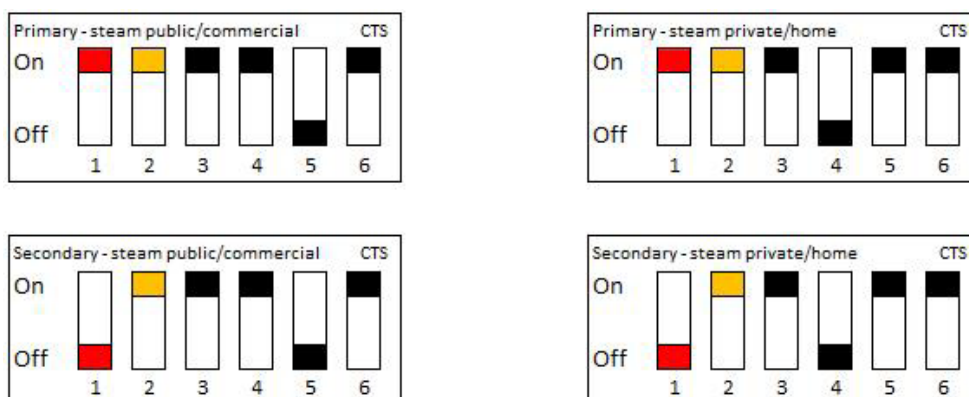

Fig. 15
When more than one generator is connected together, one of them is set up to be the "Primary" (factory setting) and is the one which controls the other generators. The other units are then set up to be "Secondary" in accordance with the DIP schematic diagram at Fig. 15.
- 3. Select a "secondary" steam generator and change the DIP switch settings to "primary" according to the appropriate type. Refer to Fig. 15. Then connect the control panel to the new "primary". A new "initial setup" will be requested, as the generator had not been set up as a "primary" earlier.